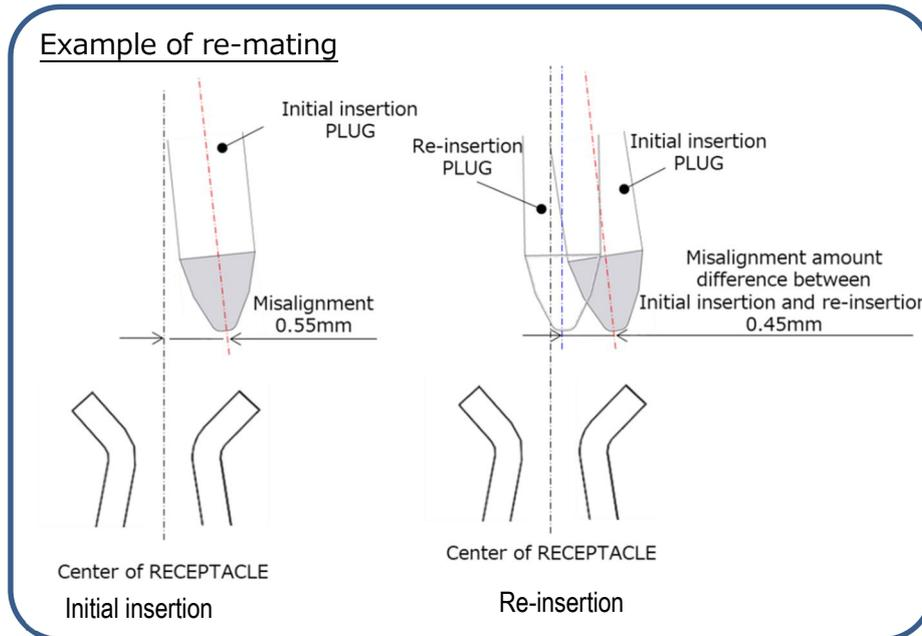

Fig.7 Condition of re-insertion
- 1) Misalignment at the initial insertion is 0.55mm. Control the insertion misalignment between initial insertion position and re-insertion position to be within 0.45mm. (See Fig.7, re-insertion condition.) The misalignment allowance in X direction has been set considering the production tolerance.